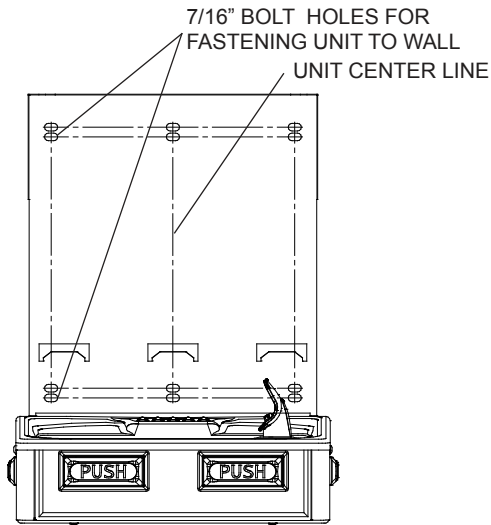

Fig. 6
- 2) Remove wall mounting plate from Bottle Filler. Place wall plate against wall on top of basin. Center the wall plate side to side with the basin. Mark the six (6) mounting holes with a pencil (See Fig. 6).
- 4) Install wall mounting plate to wall using six (6) 7/16" obround mounting holes (mounting bolts not included) (See Fig. 6). Use appropriate fasteners for your wall type.